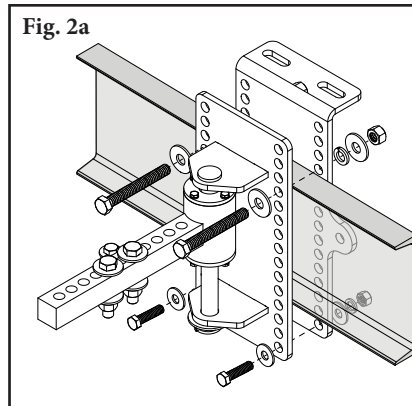

Fig. 2a
**NOTE:** Extra long bolts are provided in the situation where clamping the drop bracket and mounting pin around the channel or structure is preferred (Fig. 2a & 2b).